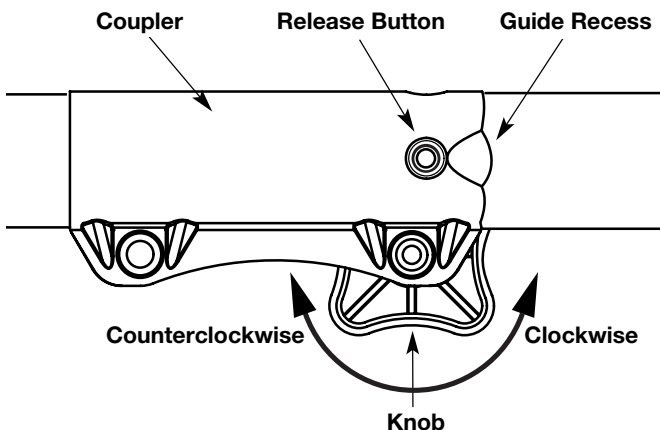

Fig. 1
1. Turn the knob counterclockwise to loosen (Fig. 1).
2. Press and hold the release button (Fig. 1).
2. Turn knob counterclockwise to loosen (Fig. 1).
NOTE: Aligning the release button with the guide recess will help installation (Fig. 1).